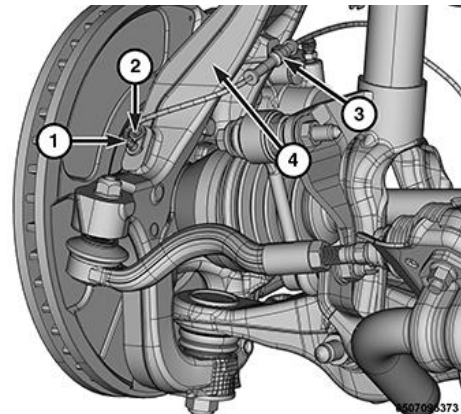

Figure 11 – Wheel Speed Sensor
19. Disconnect the sensor wire routing clips from the brake hose and remove the wheel speed sensor wiring (3) from the knuckle (4) (Figure 11).
20. Remove the front wheel sensor mounting bolt (2) and remove the sensor (1) from the knuckle (4) (Figure 11).